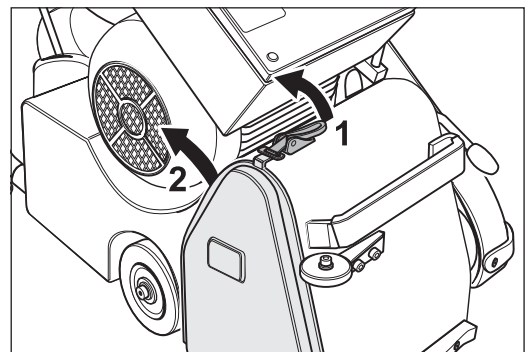

Fig. 74 Release the cover lock (1) and remove the side cover (2).
- 3 Release the cover lock (Fig. 74, 1) and remove the side cover on the right of the machine housing (Fig. 74, 2).